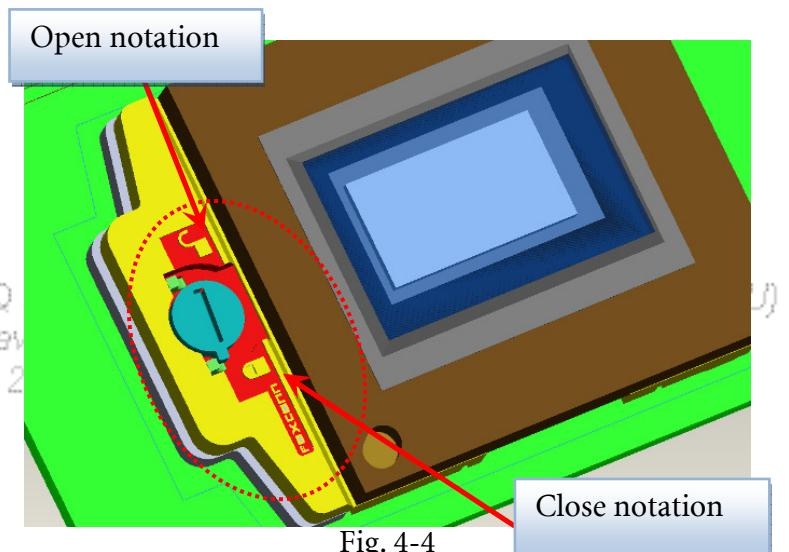

Fig. 4-4
4.3. Push DMD slightly and use screwdriver rotate clockwise button to lock (close notation) DMD on Chip B/D (Fig. 4-4).